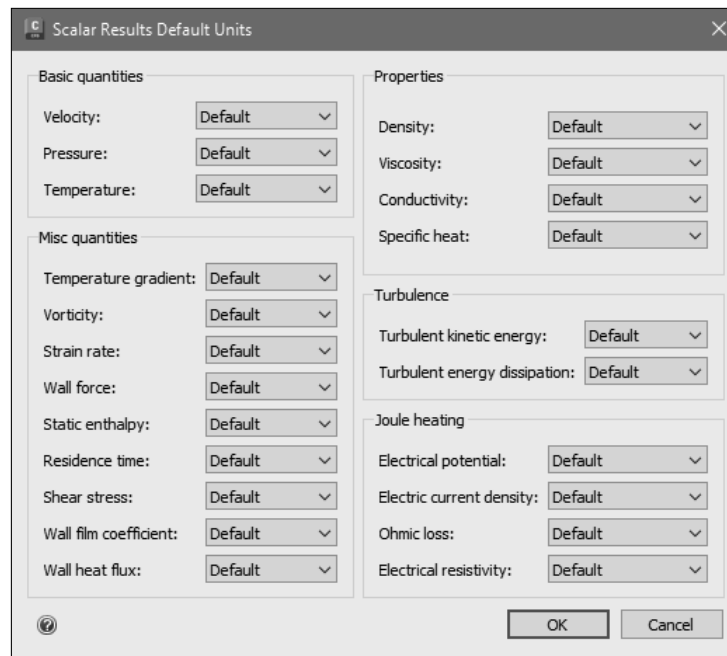

Figure-18. Scalar Results Default Units dialog box
- Click on the **Edit** button for **Results units** option in the dialog box. The **Scalar Results Default Units** dialog box will be displayed; refer to Figure-18. Specify desired units for various results in the dialog box and click on the **OK** button.